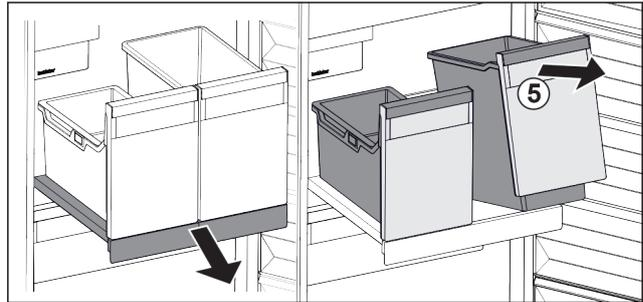

Fig. 28
- ▶ Lift the container Fig. 28 (5) at the front.